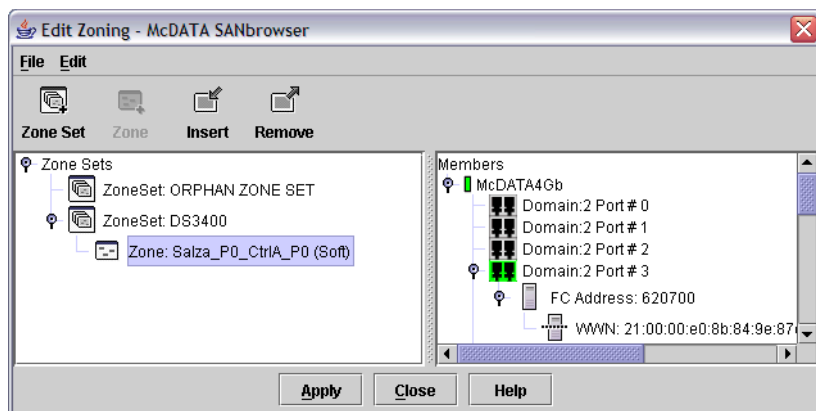

Figure 24-8 Zone created
- The new zone now appears in the right column if you expand the zone set (Figure 24-8). Highlight the zone, then drag and drop the WWNs of the members to the zone. Click the WWN of the BladeCenter HBA and drop it on the zone, and repeat this for the DS3400 port.